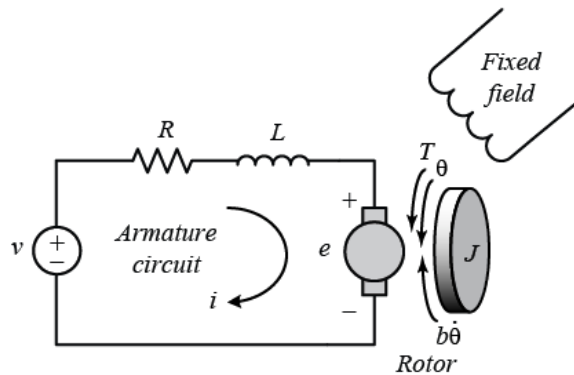

Figure 2: DC motor. [5]
A common actuator in control systems is the DC motor. It provides rotary motion and, coupled with wheels or cable reels, can provide translational motion. The free-body diagram of the rotor and the equivalent electric circuit for the armature are shown in Fig. 2.
- [1 point] Obtain the dynamic equation of the speed of the DC motor shown in Fig. 2.